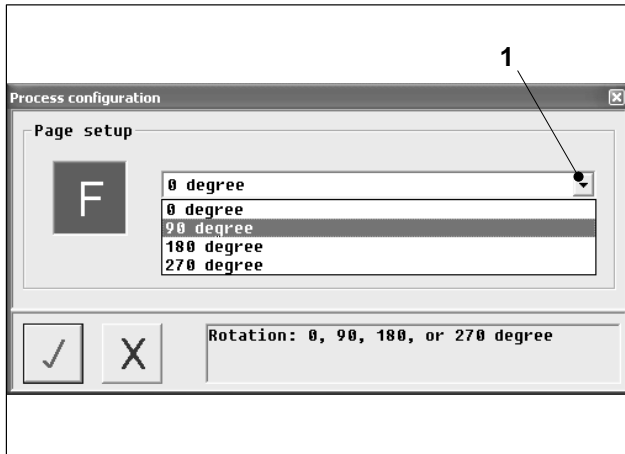

Fig. 19 Rotating the image data
8. Click on the arrow button (Fig. 19/1) to rotate the image data.